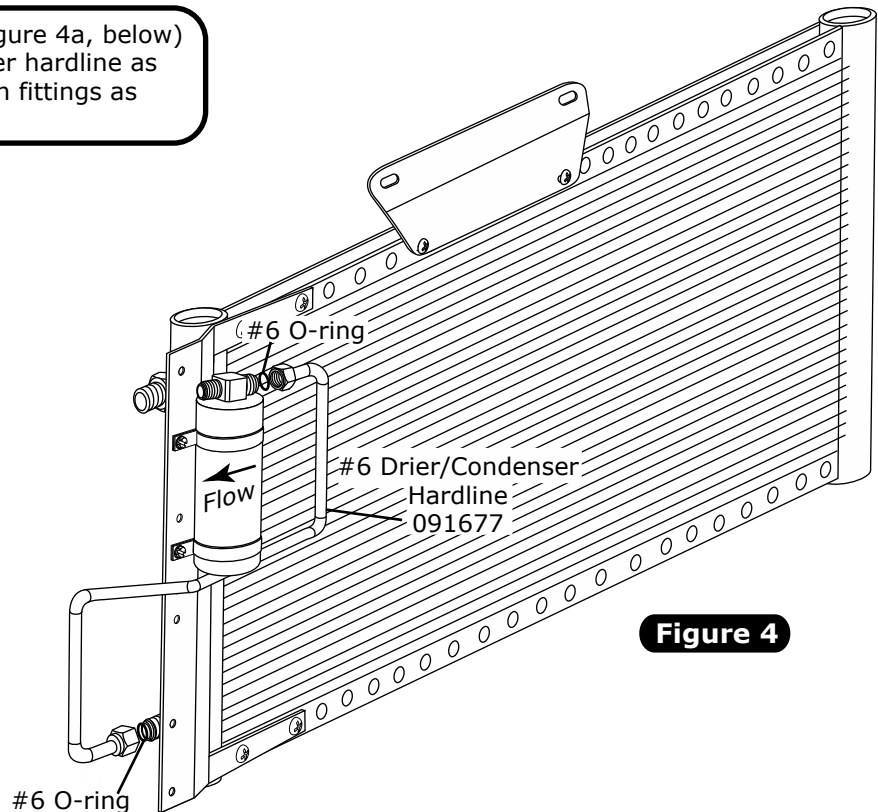

Figure 4
1. Lubricate (2) #6 O-rings (See Figure 4a, below) and install the #6 drier/condenser hardline as shown in Figure 4, below. Tighten fittings as shown in Figure 4a, below.